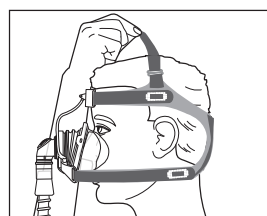

Figure 5
3. Adjust the headgear crown strap, if necessary. If the headgear side straps are resting on your ears, adjust the headgear crown strap to lift the straps slightly off your ears (Figure 5).